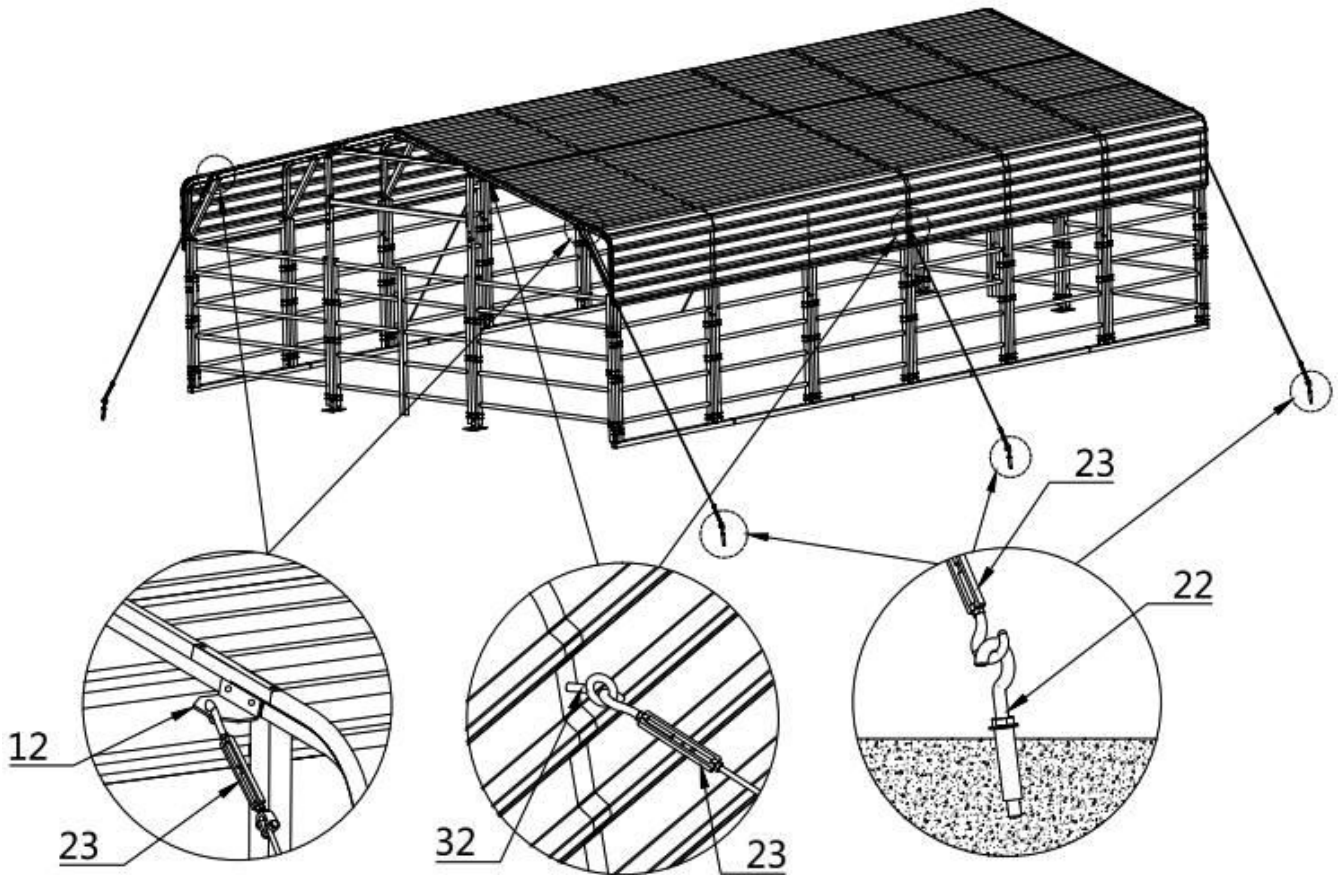

**Figure 19**
- Drill holes from inside to outside where the middle truss has holes, through the thin metal sheet, Then install (#32) eyebolts (refer to figure 19).
- (2) Eyebolt (#32)